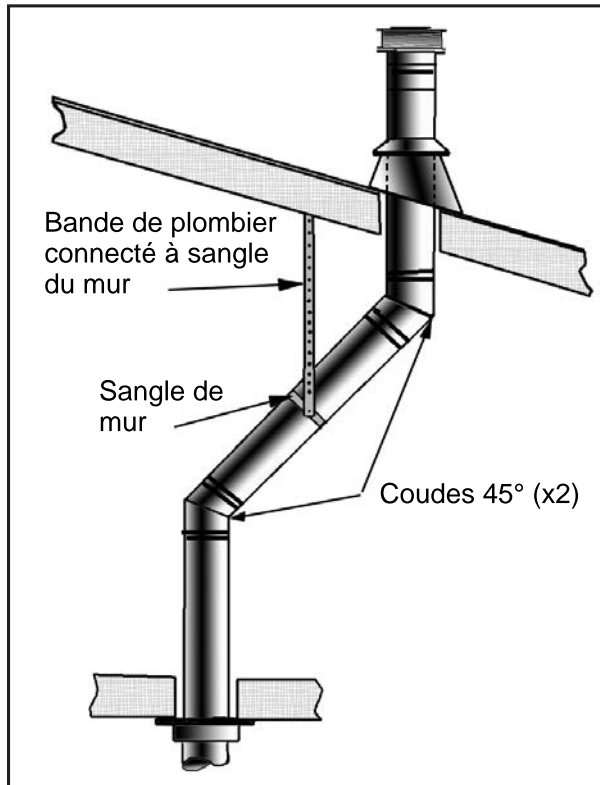
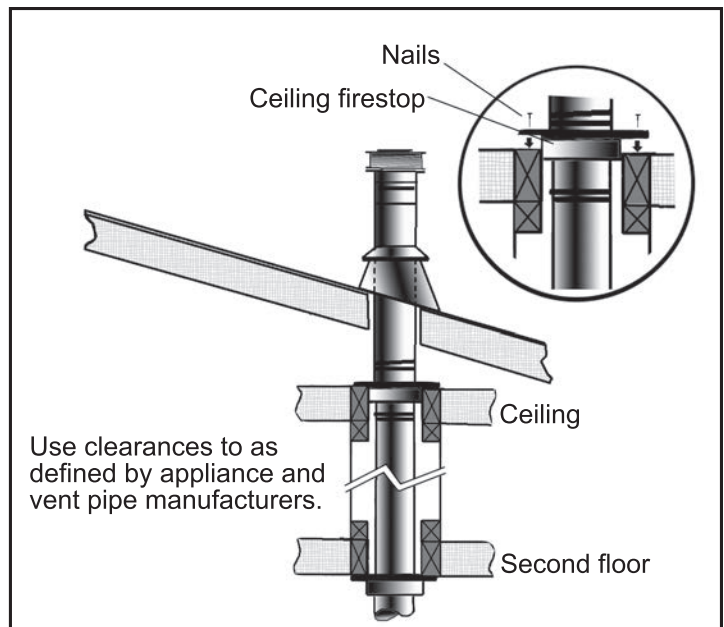

Figure 50. Use of Wall Straps.
Figure 51. Multi-Story Vent Pipe Installation.
- (1) If an offset is necessary in the attic to avoid obstructions, it is important to support the vent pipe every 3 feet (914 mm), to avoid excessive stress on the elbows, and possible separation. Wall straps are available for this purpose (see Figure 50).
- (2) When ever possible, use 45° degree elbows instead of 90° degree elbows. The 45° degree elbow offers less restriction to the flow of flue gases and intake air.
- (3) For multi story installations; a ceiling firestop is required at the second floor, and any subsequent floors (see Figure 51). The opening should be framed to 10" (254 mm) x 10" (254 mm) inside dimensions, in the same manner as shown in Figure 51.
- (4) Any occupied areas above the first floor, including